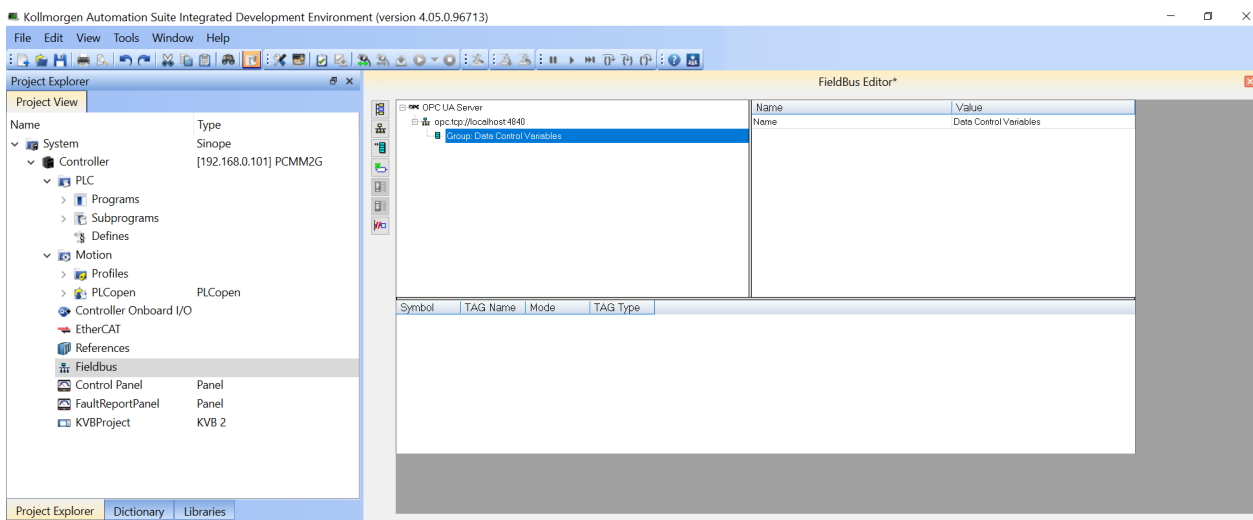

Figure 2-11: Fieldbus Editor with the added group
- The new data group is added under the OPC UA Server endpoint in the Fieldbus Editor. (Figure 2-11)